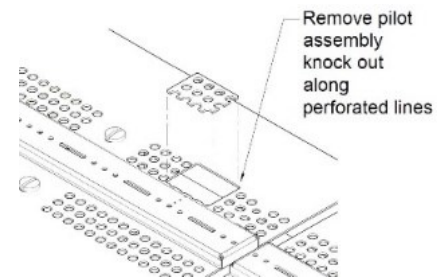

FIGURE 44
- 10) Before replacing the removed burner top from **step 4**, locate the perforated rectangular section in the pan. Gently remove this section along the perforations using a screwdriver or pliers. **(Figure 44)**